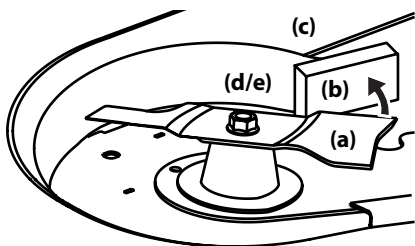

Figure 36
- Wrap a rag around one end of the blade (a) and grasp it to prevent it from turning, or secure the blade (a) by placing a block of wood (b) between the blade (a) and the deck housing (c). See Figure 36.